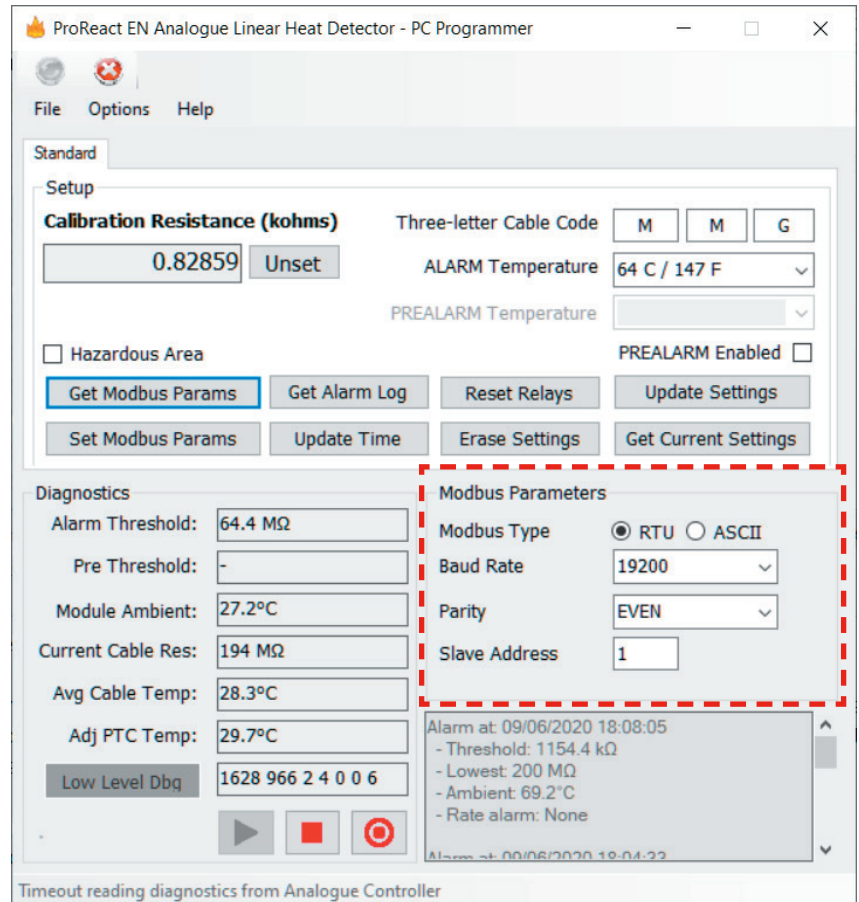

Figure 6. Screenshot of PC Programmer software showing the Modbus settings
3. The Modbus parameters frame will now be visible on the PC Programmer screen (see highlighted area in Figure 6).